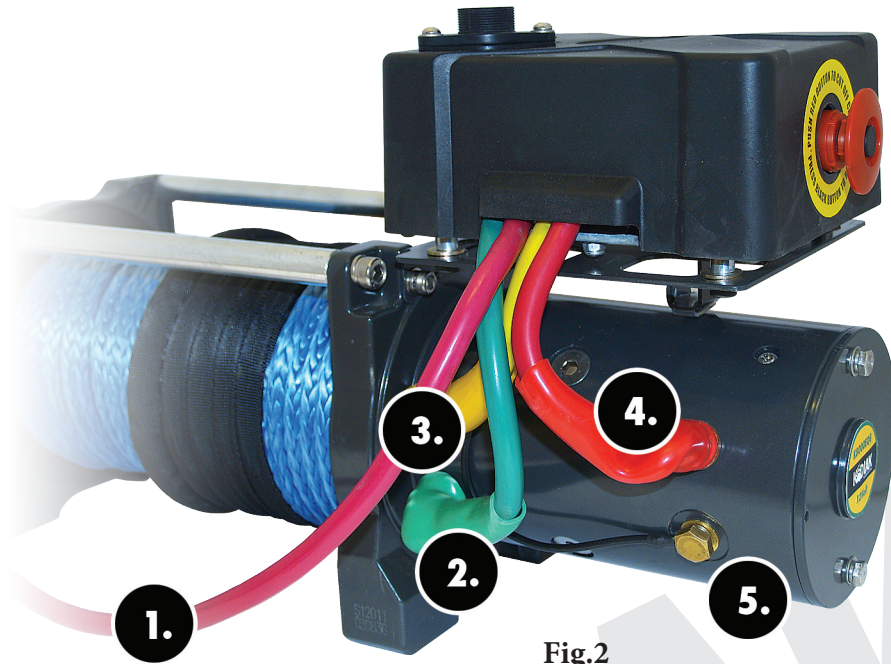

Fig.2
6) **Electric Cable Connection** (Refer to Fig.2)